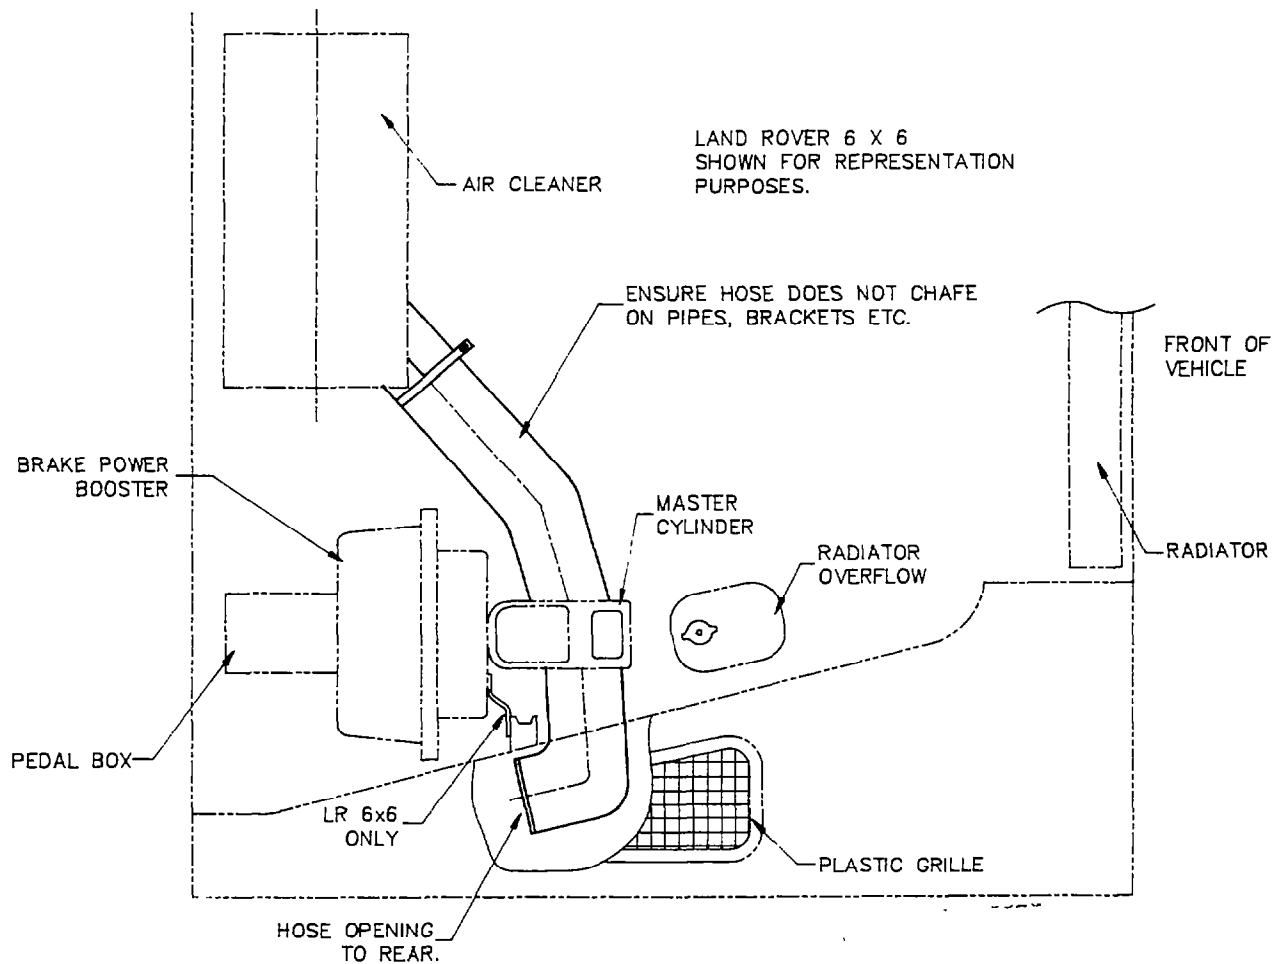

Figure 1 - Relocation of Air Inlet Hose
- b. Refit the hose, as shown in Figure 1, so that the hose opening points to the rear of the vehicle and the hose does not chafe on other pipes, cables, hoses or objects able to damage the inlet hose.